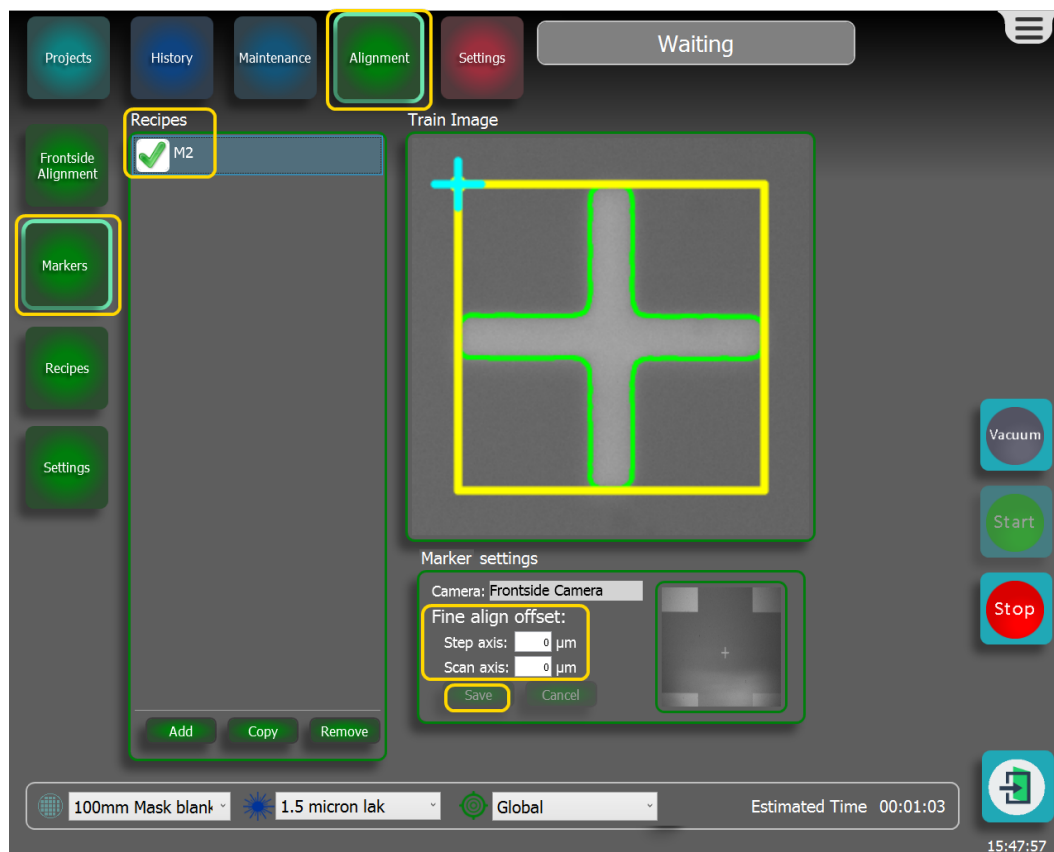

Figure 3-132 Changing marker fine align offsets
3. At **Recipes**, select the marker, see **Figure 3-132 on the next page**.